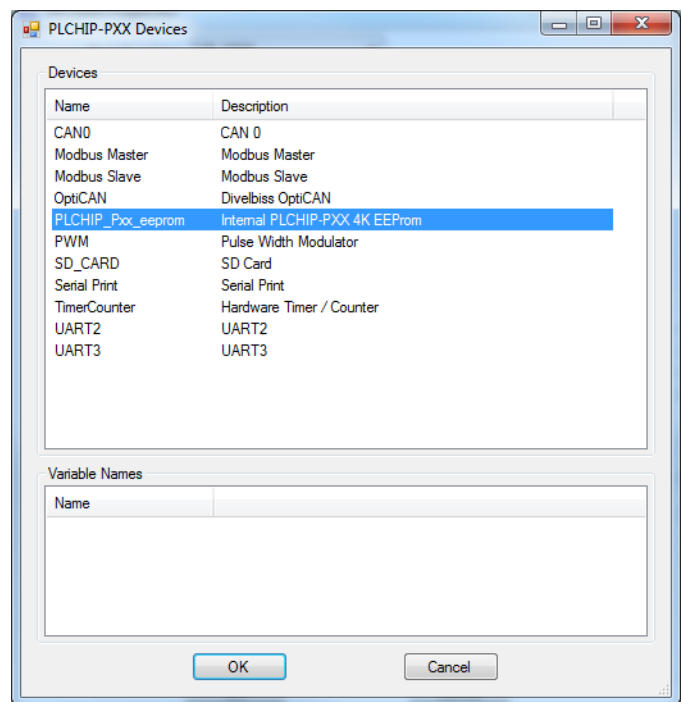

Figure 7-4
3. Click the **ADD DEVICE** button. The *PLCHIP-PXX Devices* window will open. Locate the PLCHIP\_Pxx\_eeprom in the Devices pane of this window. Refer to Figure 7-4.